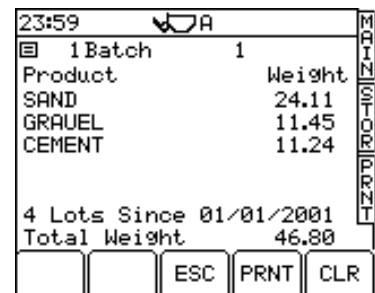

Figure 45
2. Select the batch number/name and then press MEM to view the totals (fig. 45).